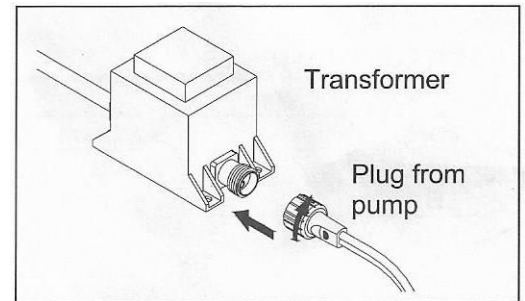

Fig.2
2. Connect the pump to the transformer. Screw on the locking nut. Fig. 2